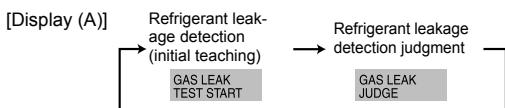

Fig. 8-2
- (2) Press **⊕ CLOCK (▼)** button and select the [GAS LEAK TEST START] (Fig. 8-2)